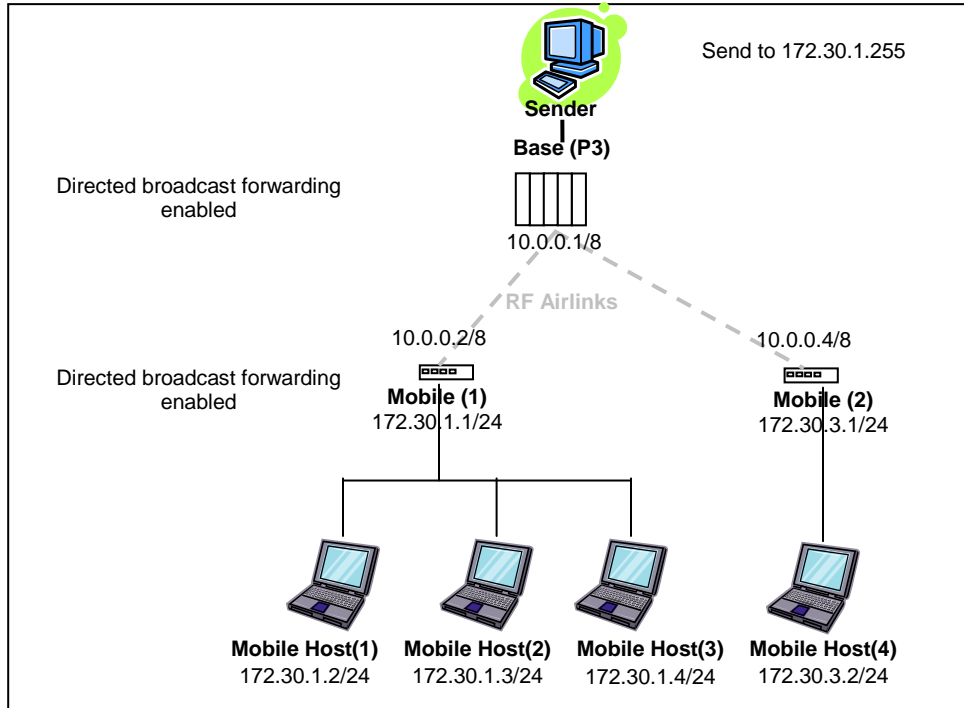

Figure 43 - Example of Directed broadcast forwarding enabled
In this example (Figure 43), directed broadcast forwarding is enabled on the **Base** unit and on **Mobile (1)** unit. If **Sender** wants to reach **Mobile Host (1)**, **Mobile Host (2)** and **Mobile Host (3)** with a single packet, he can send to destination address 172.30.1.255.